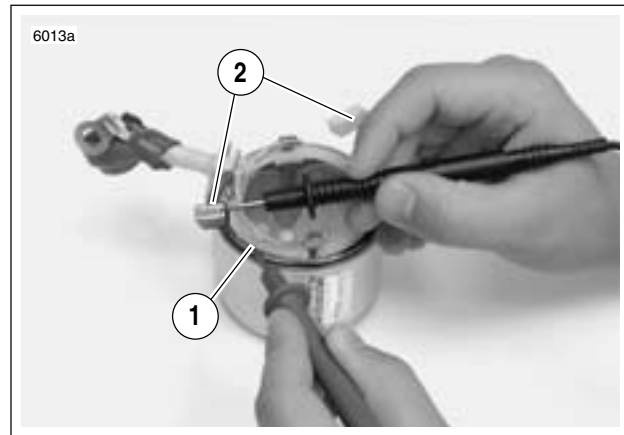
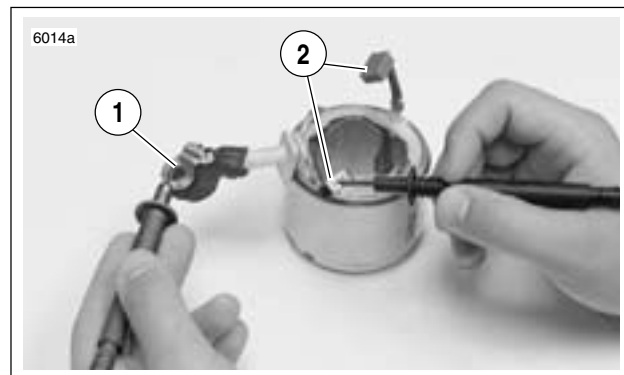
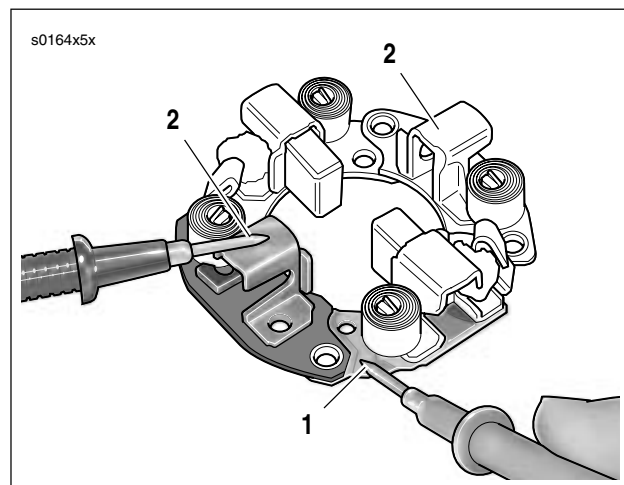

Figure 5-22. Grounded Field Test
Figure 5-23. Open Field Test
Figure 5-24. Brush Holder Insulation Test
12. See Figure 5-22. Check for GROUNDED FIELD COIL with an ohmmeter or continuity tester.
- Touch one probe to the frame (1).
- Touch the other probe to each of the brushes (2) attached to the field coil.
13. See Figure 5-23. Check for OPEN FIELD COILS with an ohmmeter or continuity tester.
- Touch one probe to the field wire (1).
- Touch the other probe to each of the brushes attached to the field coil(s) (2).
14. See Figure 5-24. Test BRUSH HOLDER INSULATION with an ohmmeter or continuity tester.
- Touch one probe to holder plate (1).
- Touch the other probe to each of the positive (insulated) brush holders (2).